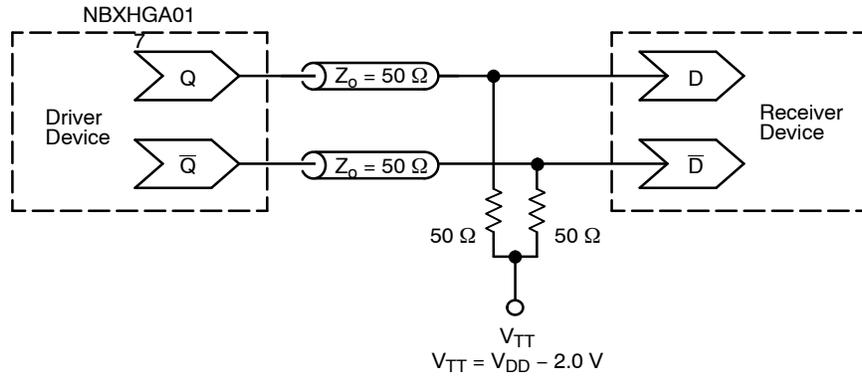

Figure 4. Typical Termination for Output Driver and Device Evaluation
2. Measurement taken with outputs terminated with $50\ \Omega$ to $V_{DD} - 2.0\text{ V}$. See Figure 4.
3. Measurement taken with outputs terminated with $50\ \Omega$ to $V_{DD} - 2.0\text{ V}$. See Figure 4.